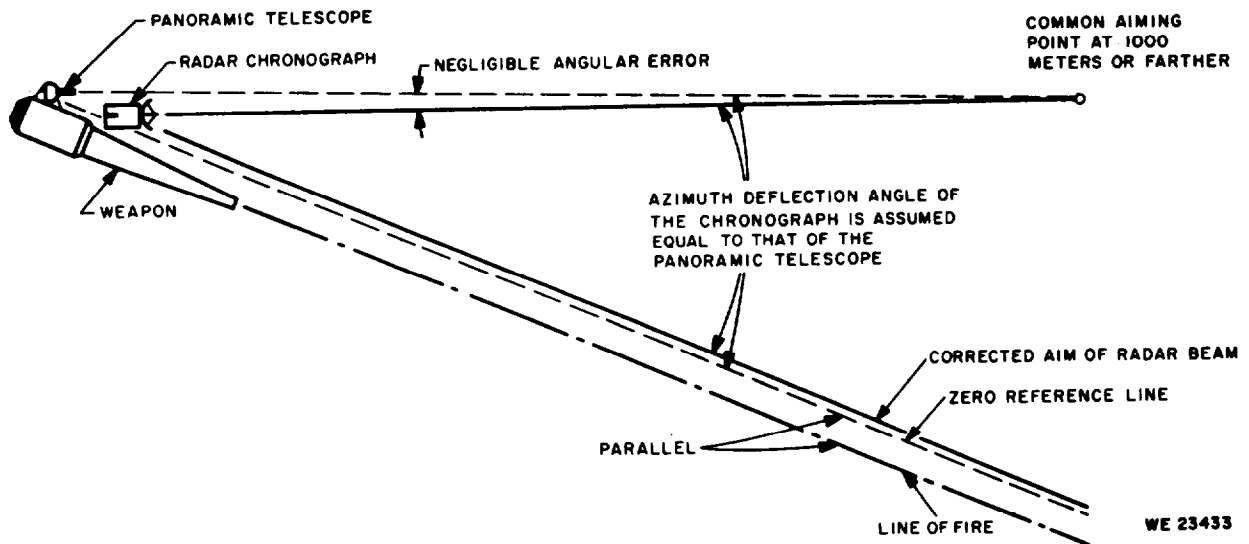
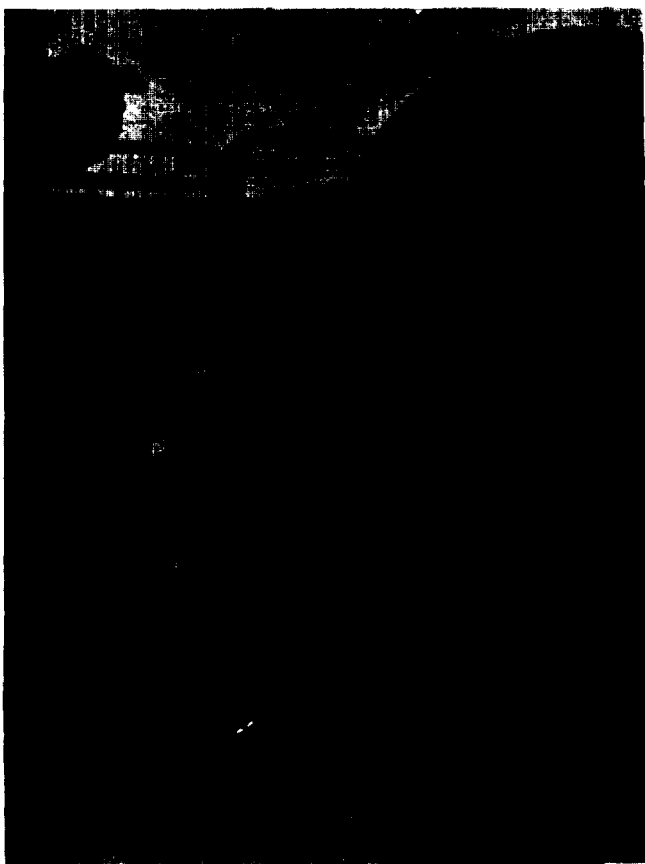

Figure 2-22. Diagram of common aiming point method.
Figure 2-23. Elevation scale and dial pointer adjustment screws.
- (1) With the weapon in the initial direction of lay and the panoramic telescope referred to the aiming point note the referred deflection.
- (2) Check that the chronograph is leveled by means of leveling vials on the mount yoke and leveling base.
- (3) Aim weapon panoramic telescope at an aiming point as specified in the appropriate weapon manual.
- (4) Read azimuth deflection on weapon panoramic telescope. Record this reading only.
- (5) Release the azimuth deflection lock handle.
- (6) Sight through telescope XM128 (on the chronograph) at the common aiming point (fig. 2-22).
- (7) Tighten the azimuth deflection lock handle.
- (8) Release the azimuth scale lock knob.
- (9) Rotate the azimuth deflection scale to 0.
- (10) Tighten the azimuth scale lock knob.
- (11) Release the azimuth deflection lock handle.
- (12) Rotate the yoke until the azimuth deflection scale indicates the same reading as that of the weapon panoramic telescope in (4) above.
- (13) Tighten the azimuth deflection lock handle.
- (14) Release the azimuth scale lock knob and rotate deflection scale to the reading noted in (1) above.
- (15) Tighten the azimuth scale lock knob.
- (16) Chronograph is now optically aligned with axis of gun tube.
- (17) Check weapon elevation angle.
- (18) With chronograph still aimed at common aiming point, check that elevation reading of chronograph is the same as that of the weapon.
- (19) If elevation readings on weapon and chronograph do not agree, loosen chronograph elevation dial pointer adjustment screws (fig. 2-23), adjust pointer for agreement, and retighten dial pointer adjustment screws.
- (20) Chronograph is now optically aligned with axis of gun tube.
- (21) Release the azimuth scale lock knob.
- (22) Rotate azimuth scale to same base deflection used by gunner.
- (23) Tighten the azimuth scale lock knob.
- (24) The M36 chronograph is now ready to follow fire commands given to gunner.